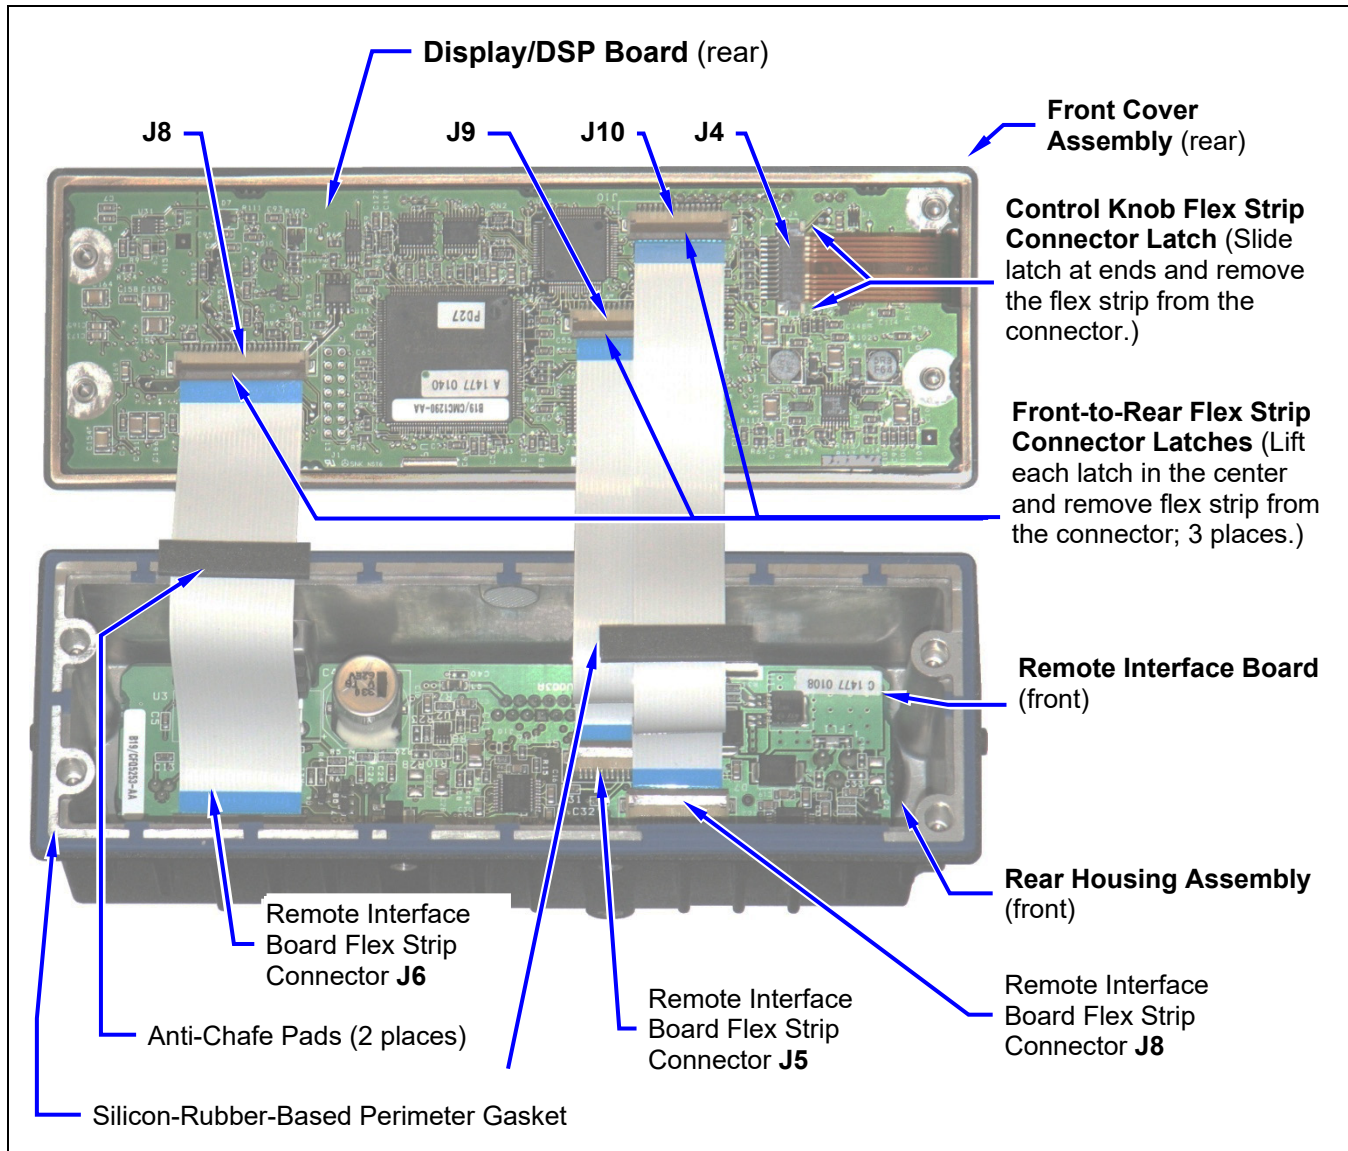

Figure 5-2: Separating/Mating Front Cover Assembly and Rear Housing Assembly (Disconnecting/Reconnecting Flex Strips)
4. Remote-Control Control Head Only: As illustrated in Figure 5-2, carefully disconnect the three (3) front-to-rear flex strips at the Display/DSP Board by lifting/hinging each connector's latch until it is approximately perpendicular with the board, and then gently extracting the end of the respective strip from the connector.
5. Local-Control Control Head Only: Although not illustrated, the local-control version of the control head has only one (1) front-to-rear flex strip. It mates with the radio's PK Board. See Section 5.4.2.1 on page 38 for separation instructions.
1. Place the two assemblies on a flat ESD-safe surface, with their inside portions facing up. Figure 5-2 illustrates this for the remote-control version of the control head.
3. Install the gasket at the front edge of the Rear Housing Assembly, if not already installed. See Figure 5-2.
4. Remote-Control Control Head Only: In the Rear Housing Assembly, mate the shortest 16-conductor flex strip to connector J5 on the Remote Interface Board. See Figure 5-2. This is the (narrower) flex strip without the anti-chafe pad.
10. Remote-Control Control Head Only: As shown in Figure 5-2, mate the three (3) front-to-rear flex strips to their respective connectors on the Display/DSP Board.
Do not pull on or twist the flex strips and follow the information in the previous section. If new flex strips are being used, add two (2) anti-chafe pads in the approximate locations as illustrated in Figure 5-2.